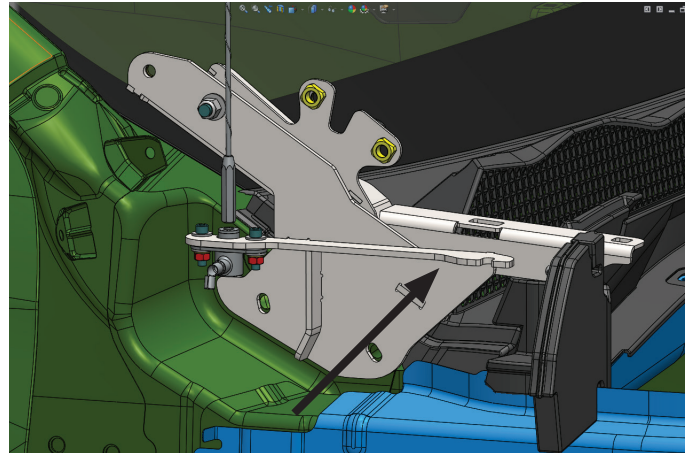

Figure 8
6. Using the factory fender bolt, hand tighten the front bracket mount. (Figure 8)